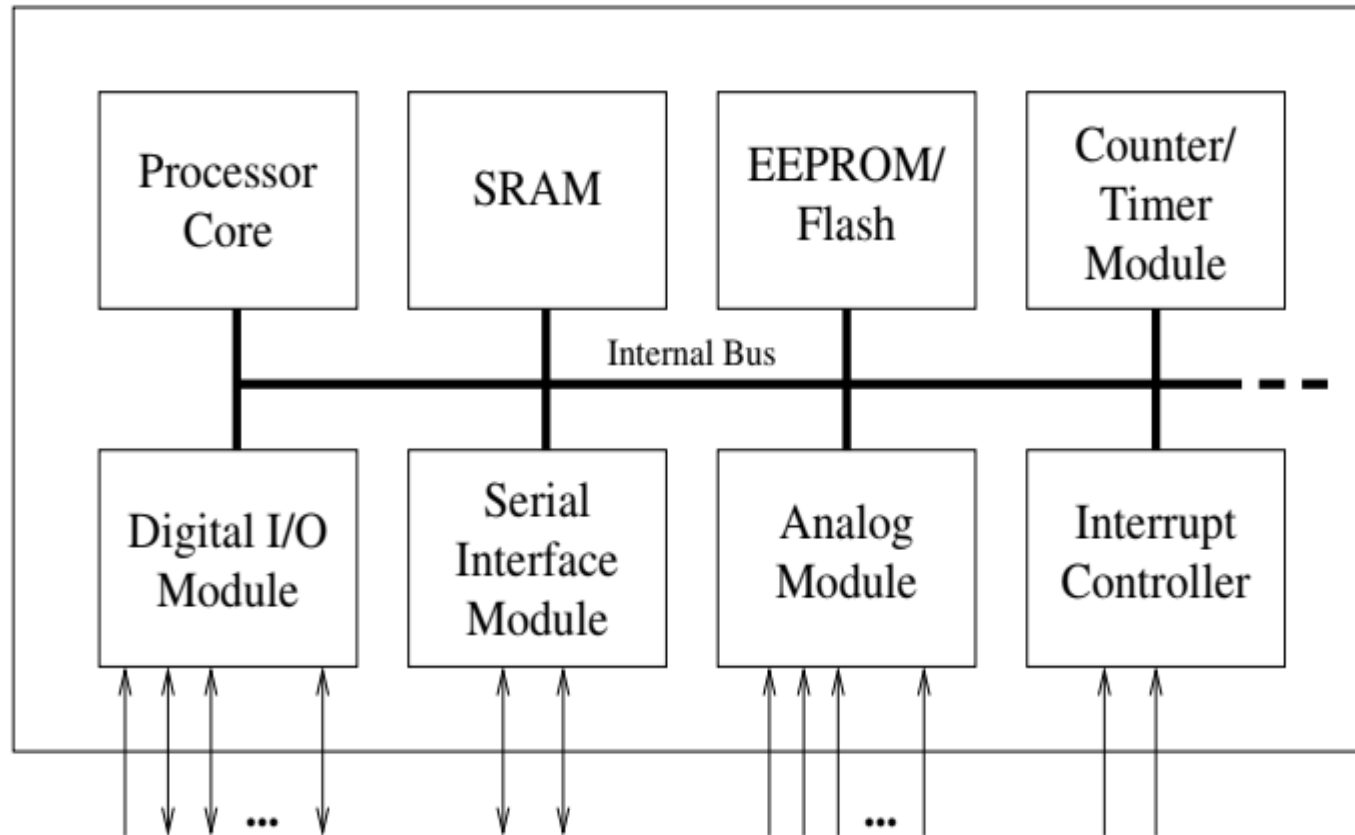

Figure 1.1 Basic layout of a microcontroller.
- Figure 1.1 shows the block diagram of a typical microcontroller. All components are connected via an internal bus and are all integrated on one chip. The modules are connected to the outside world via I/O pins.